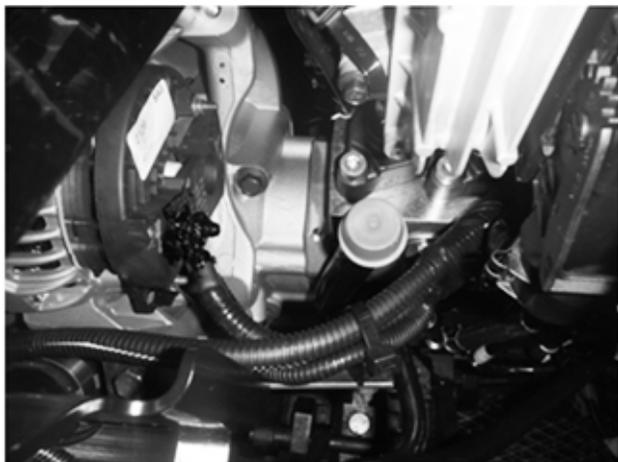

Figure 25
13. Remove lower front alternator-mounting bolt, install bolt through ground terminal of alternator harness, re-install bolt, and tighten bolt to specification. Connect the positive cables in the 6 o'clock position and tighten nut to specification (Figure 25).
14. Install a cable tie strap (306132C1) to saddle on twisted bracket and around alternator harness bundle but do not fully tighten at this time. The cable tie strap will be tightened in a later step (Figure 25).